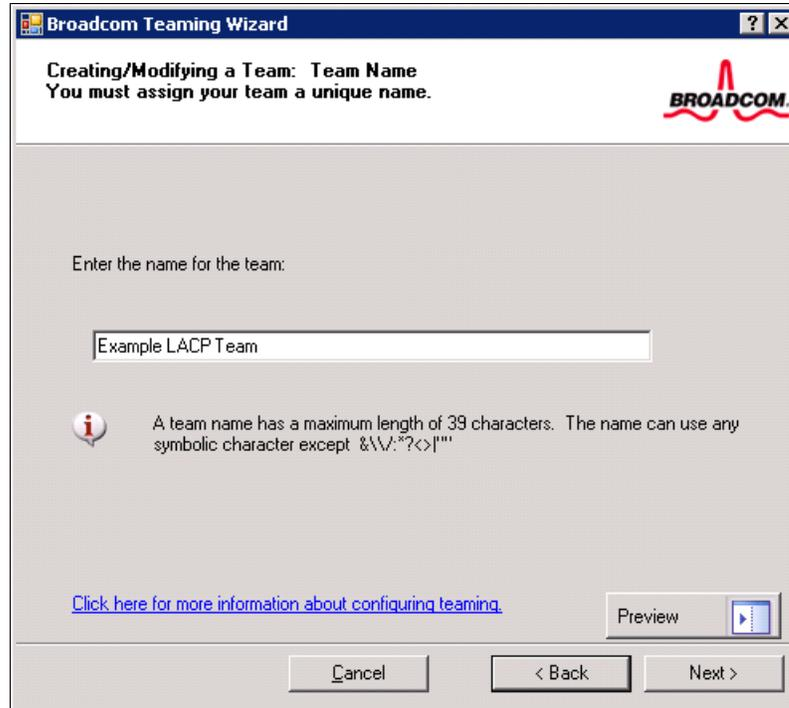

Figure 9-33 Creating/Modifying a Team: Team Name window
4. In the Creating/Modifying a Team: Team Name window (Figure 9-33), enter the name for the new team. Then click **Next**.